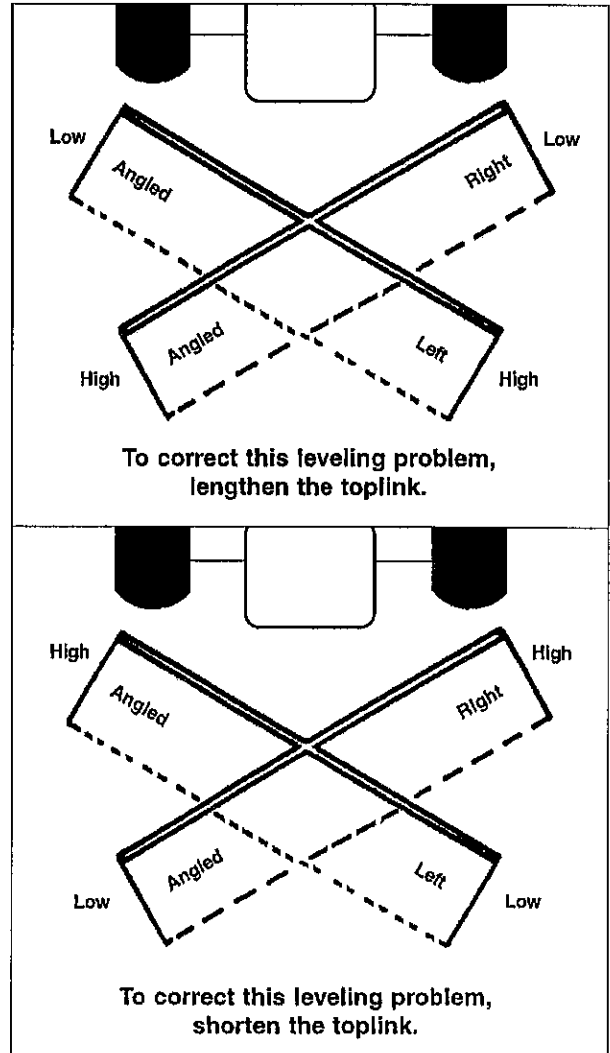

Figure 18
- If measurements are not equal, level the mounting assembly with the topline. Follow instructions shown in Figure 18. Then, go back to the beginning of step 5; repeat until the broom is level.